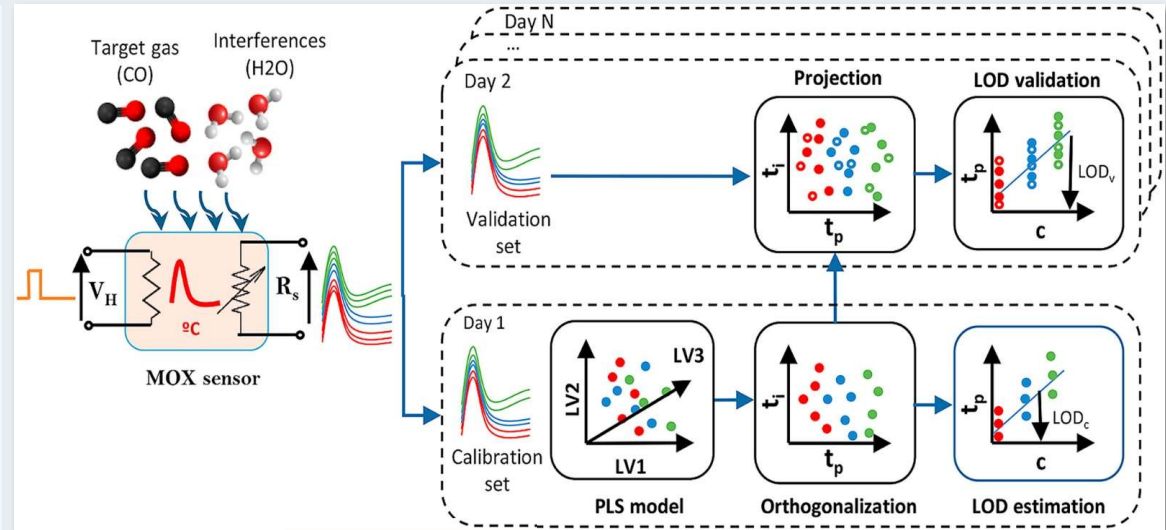

Figure 1: Experiment Setup
- Chemical detection platform composed of 14 temperature-modulated metal oxide semiconductor (MOX) gas sensors as in **Figure 1**.
- The sensors are exposed to dynamic mixtures of carbon monoxide (CO) and humid synthetic air in a gas chamber.
- Data collected with features based on input from 14 MOX sensors (MOhm), CO (ppm), Humidity (%r.h.), Temperature ($^{\circ}\text{C}$), Flow rate (mL/min), Heater voltage (V).